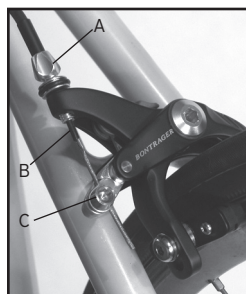

Figure 7 Cable guide parts
The special housing end caps with the extension are intended to guide the cable through the barrel adjuster (Figure 7).
5. Attach the cable to the brake and tighten the cable clamp bolt (Figure 7) to 50-70 lb•in (5.7-7.9 Nm).